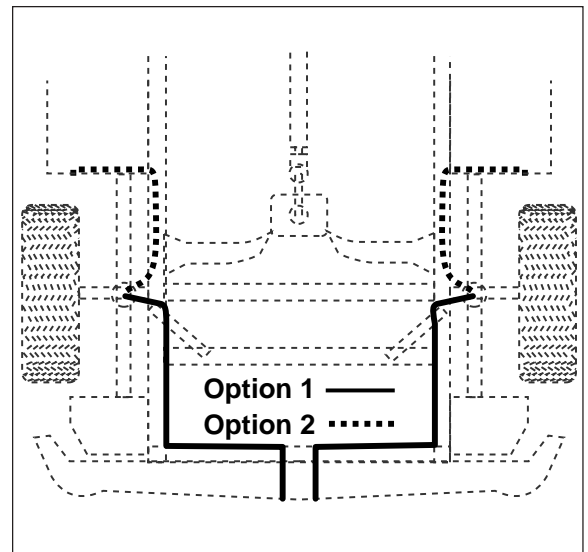

Figure 5
- Select a location for the inflation valves in the rear bumper area or rocker panel flange insuring that each valve will be protected and accessible with an air hose (Figure 5).
- Route air line along frame to desired inflation valve location (Figure 5). Attach air line to chassis with the provided plastic straps.